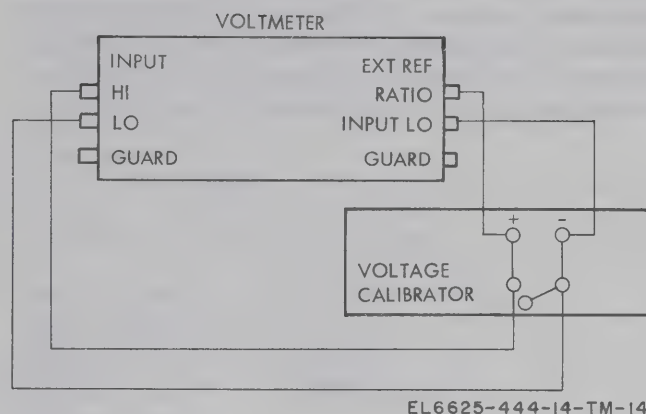

Figure 3-3. Operational check equipment connections.
a. Make the equipment connections shown in figure 3-3.